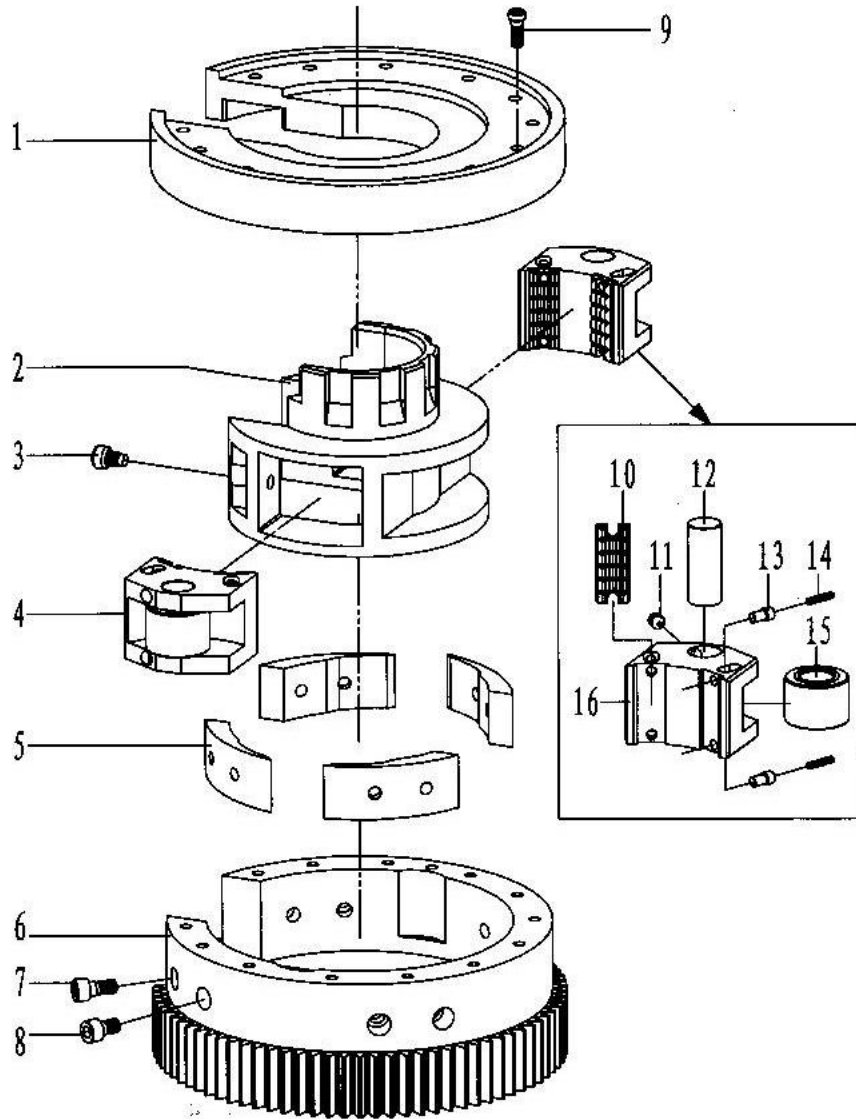

Fig 8
9.4 Tong head assembly and parts list (Fig 8, Table 4)